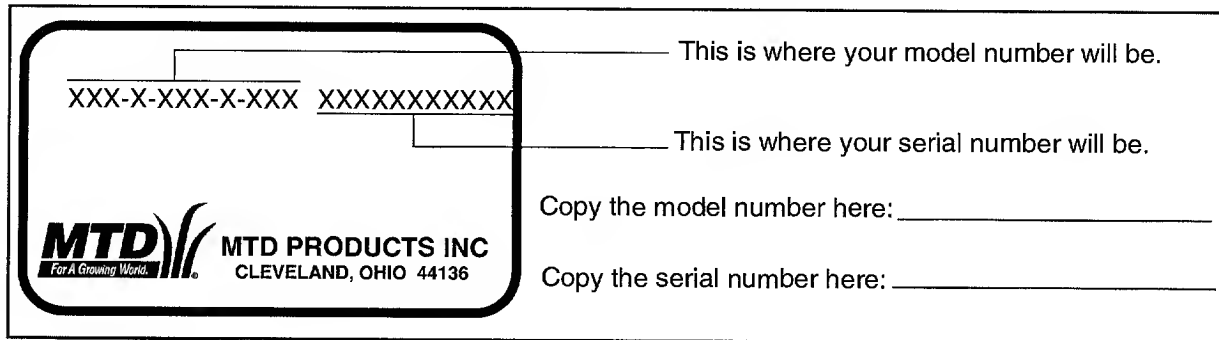

Figure 1
- Every walk behind has a model plate. You can locate it by standing behind the unit in the operating position and looking down at the rear of the deck. See Figure 1.